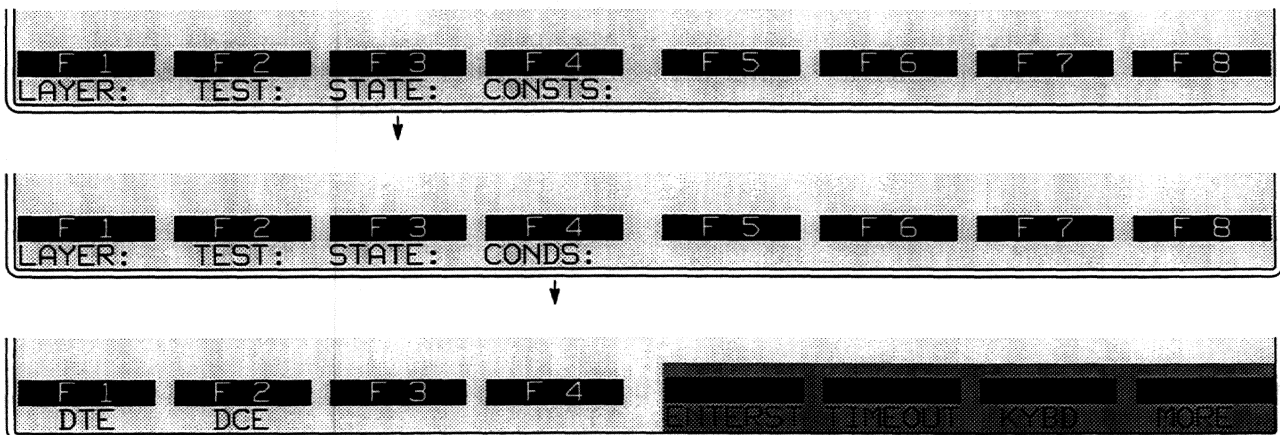

Figure 47-3 To monitor line conditions, first select DTE or DCE.
- A group of conditions and actions at Layer 3 on the Protocol Spreadsheet that facilitate SS#7 programming. Figure 47-3 shows the softkey path to the first rack of condition softkeys when the SS#7 package is loaded in at Layer 3.
When the Layer 3 SS#7 personality package is loaded in (via the Layer Setup screen), a set of conditions checks DTE and DCE leads both in monitor and emulate modes. This set of conditions is accessed by the DTE and DCE selections on the first rack of condition softkeys at Layer 3. See Figure 47-3.